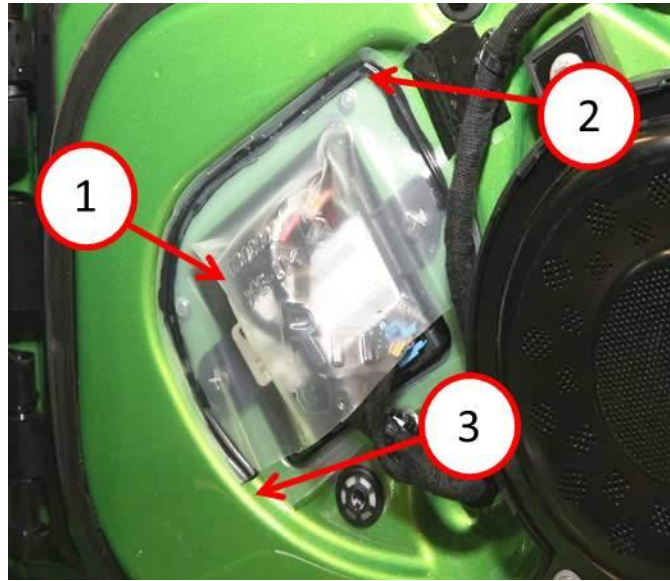

Fig. 6 Module Water Shield
17. Install the module water shield over the door module by pushing butyl firmly onto the door panel (Fig. 6).